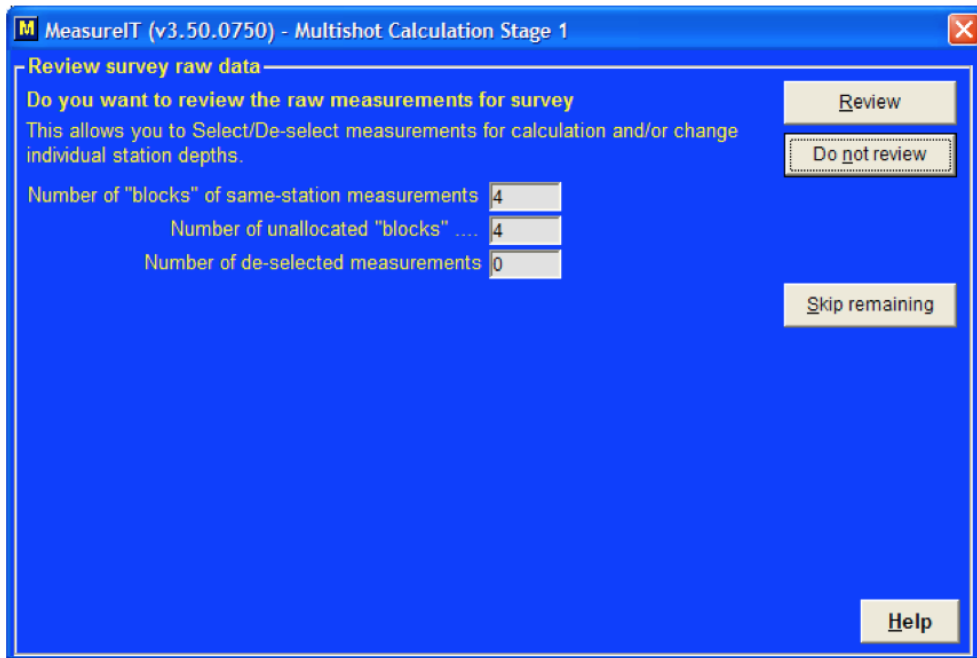

Figure 14 Stage 1 calculation options screen
9. Proceed to the Multishot Calculation Stage 1 screen (**Figure 14**). Click the '**Do not review**' button to skip the data review screens. They are of limited use to us because we are not performing a "traditional" downhole survey..